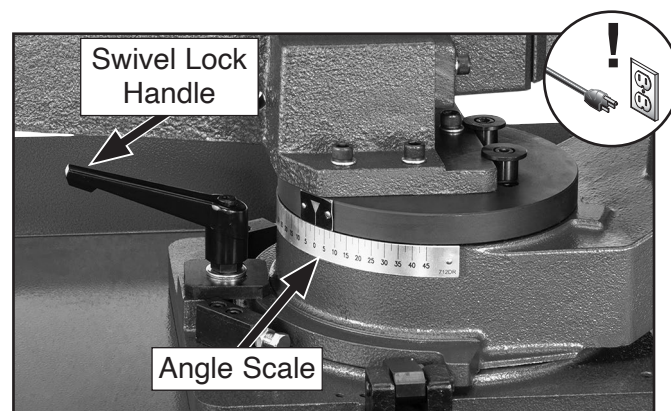
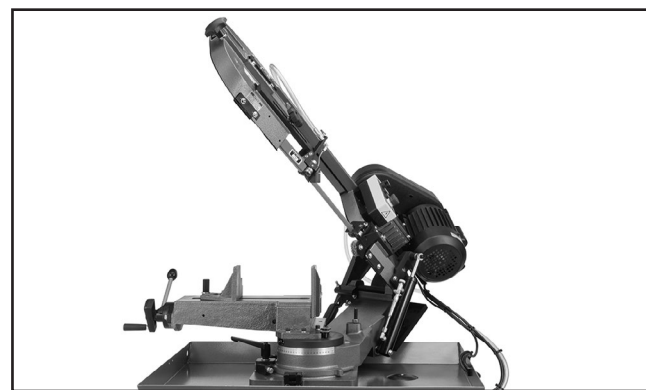

Figure 56. Swivel components.
Figure 57. Example of rotated headstock.
3. Loosen swivel lock handle (see **Figure 56**).
4. Rotate headstock (see **Figure 57**) until angle scale on base displays desired angle (see **Figure 56**).